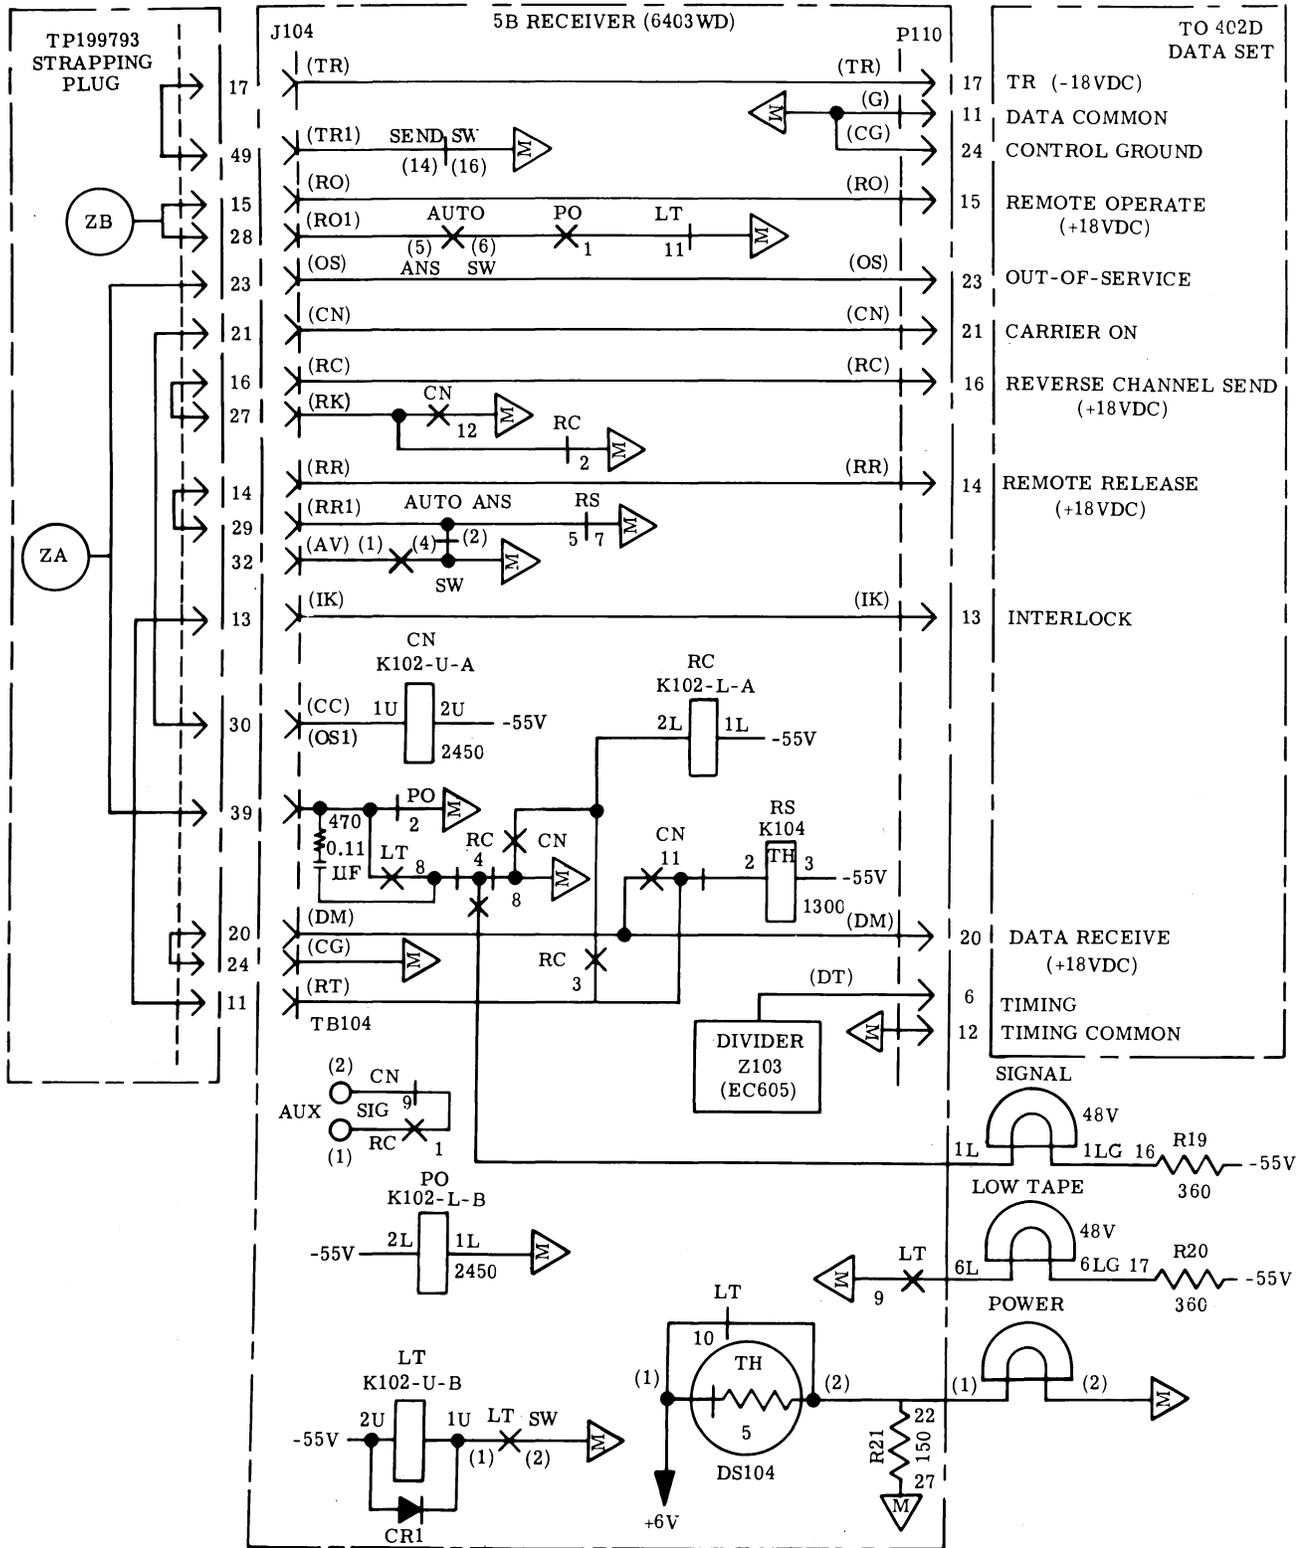
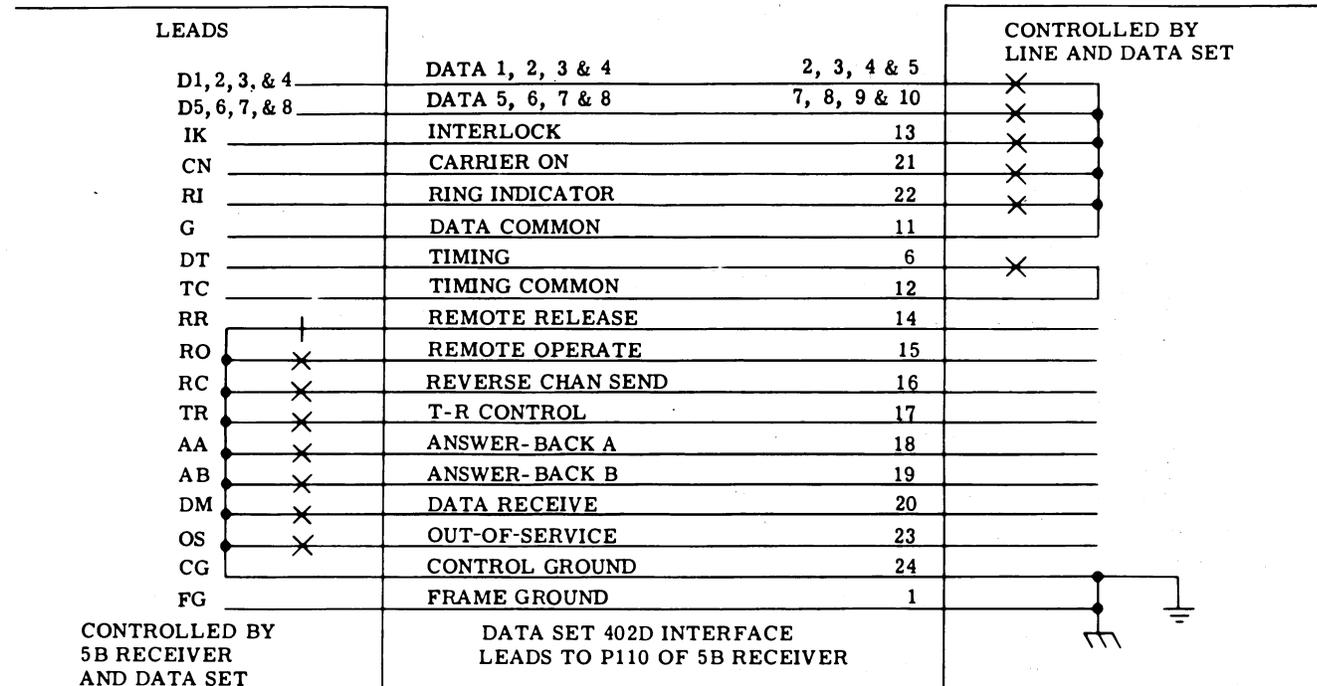

Figure 2 - Tape Receiver 5B, Receive-Only Terminal Control Circuits
Figure 3 - Typical Interface - Contact Control Arrangements at Data Set
(a) Unusual troubles that may not have been anticipated in this section can be cleared by reference to Section 592-808-100, where circuit details are discussed. An interconnecting block diagram (Figure 1), a control circuit diagram (Figure 2), and an interface diagram (Figure 3) are included in this section for the convenience of the serviceman. Also included are trouble sources, and general information that may otherwise be difficult to obtain (Charts 1 and 2).
C. Control Circuits (Figure 2)
3.16 For proper operation, the manual controls must be positioned according to the section covering operation of the terminal equipment. This includes any extra feature units used. The manual controls may also be operated as an aid in checking their related circuits and to isolate possible troubles in the receiver. Refer to Figure 2 and Chart 1 in this section, and to wiring diagrams 6403WD and 6404WD shipped with the receiver.